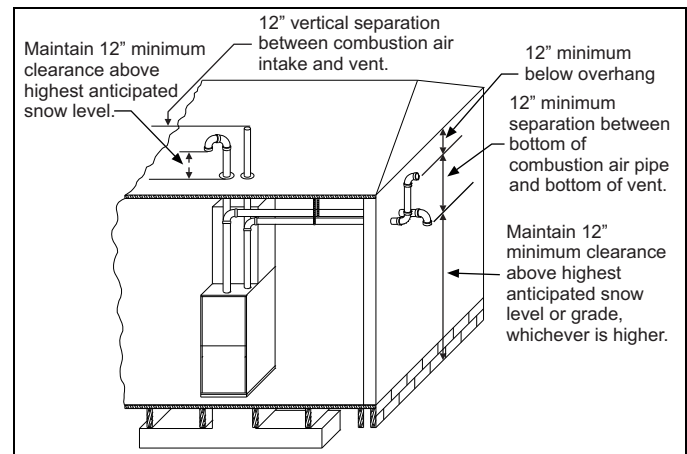
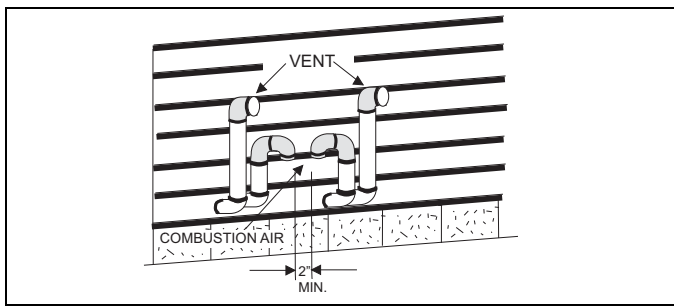

FIGURE 36: Termination Configuration - 2 Pipe
FIGURE 38: Double Horizontal Combustion Air Intake and Vent Termination
7. Direct vent systems must be installed so the vent and the combustion air pipes terminate in the same atmospheric zone. Refer to Figures 36 or 37.
The combustion air side of the two-pipe configuration shown in Figures 36 and 37 can be installed so the combustion air pipe terminates as described in outdoor combustion air or ventilated combustion air sections in these instructions. Follow the instructions for outdoor combustion air or ventilated combustion air and the instructions for installing the vent system with the vent terminating as shown in Figure 38 or 39. The two-pipe system must have a separate combustion air pipe and a separate vent pipe for each furnace. Under NO circumstances can the two combustion air or vent pipes be tied together. The combustion air and vent pipes must terminate in the same atmospheric zone.